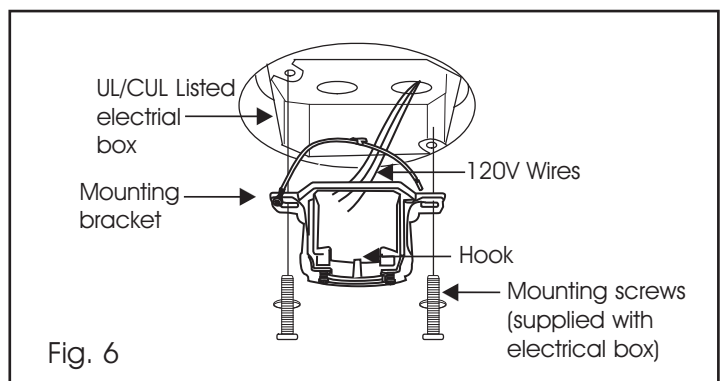

Fig. 6
**Step 3.** Pass the 120-volt supply wires through the center hole in the ceiling hanger bracket as shown in Fig. 6.